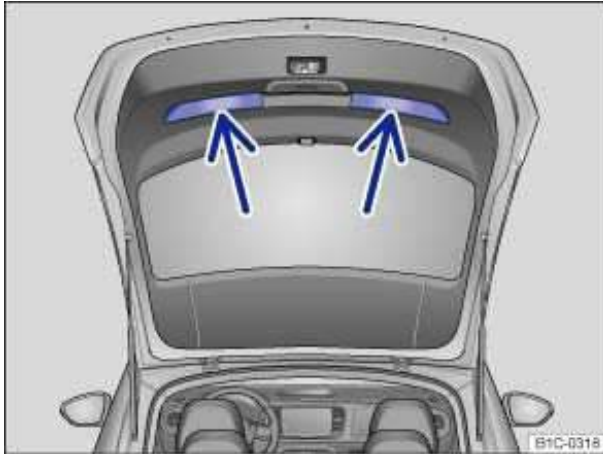

Fig. 27 Opened rear hatch: Recessed grips for closing.
- Grasp one of the recessed grips in the rear hatch trim ⇒ fig. 27 (arrows).